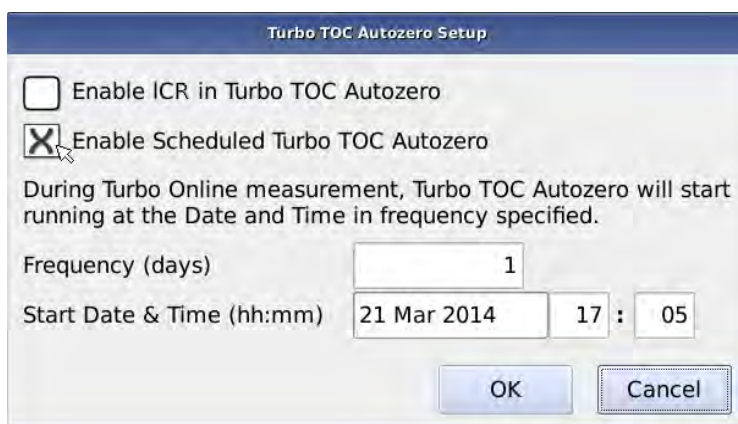

Figure 103: Turbo TOC Autozero Setup
(Optional On-Line Only) To enable scheduled Turbo TOC Autozero operations, select the Turbo TOC Autozero protocol and press **Setup** to display the **Turbo TOC Autozero Setup** dialog box (Figure 103). Select the option and set the Frequency and Start Date and Time.
10. (Optional ICR Unit Only) If you want to run the Turbo TOC Autozero with the ICR enabled, press **Setup**. The **Turbo TOC Autozero Setup** dialog box appears. See Figure 103: Turbo TOC Autozero Setup on page 311.